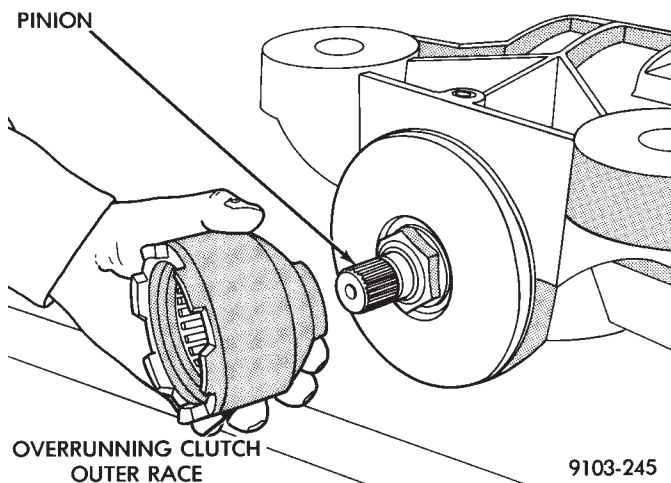

Fig. 4 Overrunning Clutch Outer Race Removal
- (5) Slide overrunning clutch outer race off of shaft (Fig. 4).